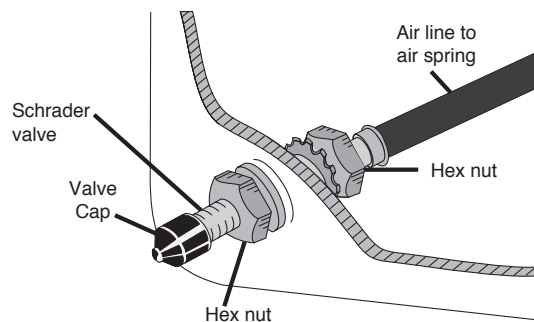

fig. 11
4. Place a 5/16" nut and star washer on the air valve. Leave enough of the inflation valve in front of the nut to extend through the hole and have room for the rubber washer, flat washer, and 5/16" nut and cap. There should be enough valve exposed after installation – approximately 1/2" – to easily apply a pressure gauge or an air chuck (Fig. 11).